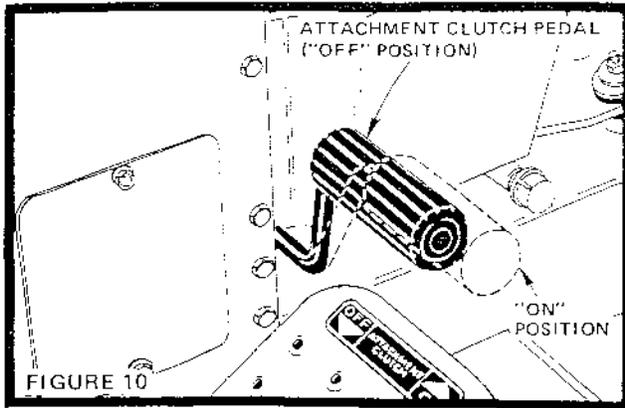
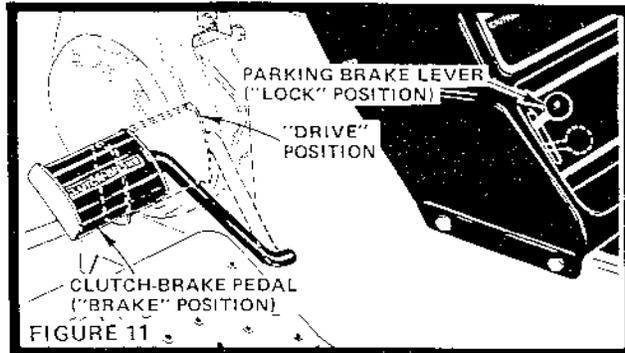

FIGURE 10
FIGURE 11
THIS TRACTOR IS EQUIPPED WITH SAFETY SWITCHES TO PREVENT STARTING OF THE TRACTOR ENGINE WHILE THE ATTACHMENT CLUTCH PEDAL IS IN THE "ON" POSITION (FIG. 10) AND THE CLUTCH BRAKE PEDAL IS IN DRIVE POSITION (FIG. 11).
1. Place Attachment Clutch Pedal in "OFF" position (Fig. 10).
2. Push Clutch-Brake Pedal fully into brake position (Fig. 11).
2. Push Clutch-Brake Pedal down firmly to unlock Parking Brake and hold Clutch-Brake Pedal in Brake position (Fig. 11).